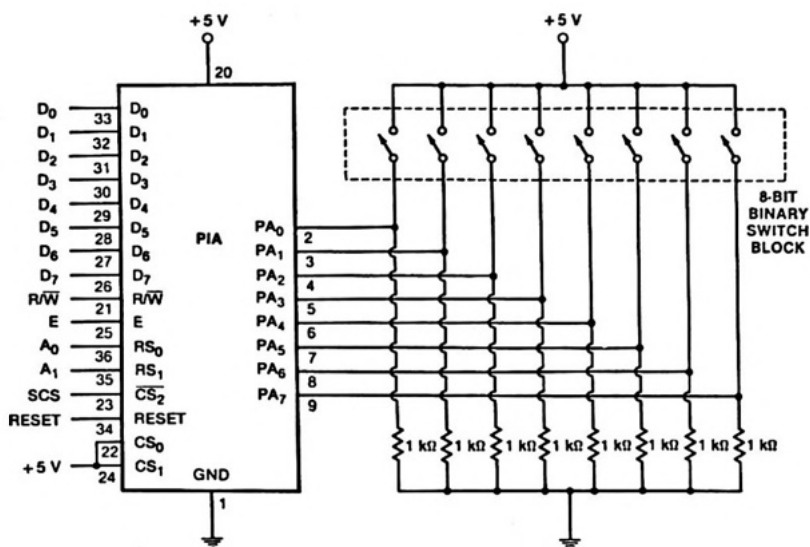

Figure 6-6
Schematic Diagram (Fig. 6-6)
Step 1 — Construct the PIA interface circuit shown in Fig. 6-6 using the expansion connector interface breadboard and an extra solderless breadboard. Locate the PIA and binary input switches on the solder-
Table 6-1. The PIA Register Assignments Provided by the Circuit in Fig. 6-6